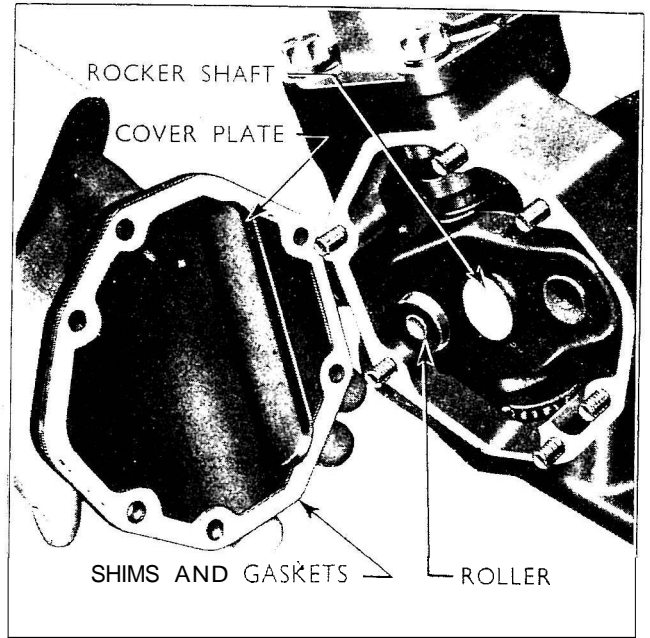

Fig. 213
- 3 Unscrew the two nuts and four bolts (lockwashers are also fitted) securing the cover plate to the box. If the end-float is excessive, remove the shims; alternatively, if there is no end-float, add shims as required. (See Fig. 213.)
- 1 Unscrew the side cover plate retaining nuts, bolts and washers, and detach the cover. Do not lose the shims (and gaskets as these determine the rocker shaft end-float). Lift off the roller from the main nut (see Fig. 213).